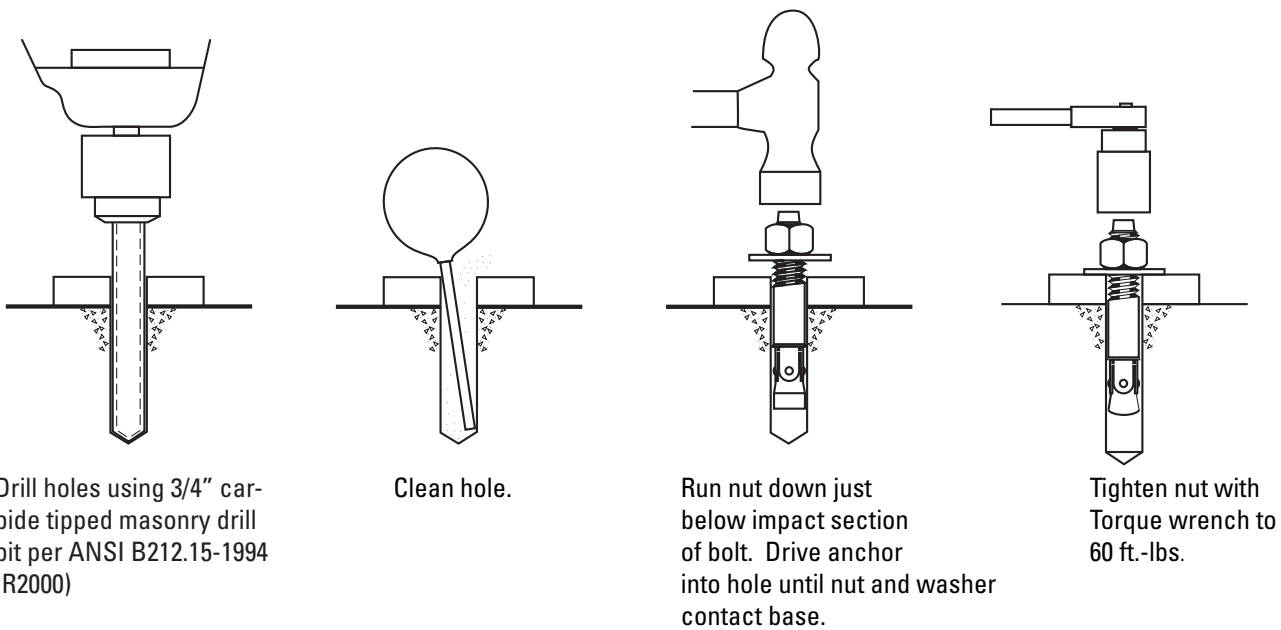
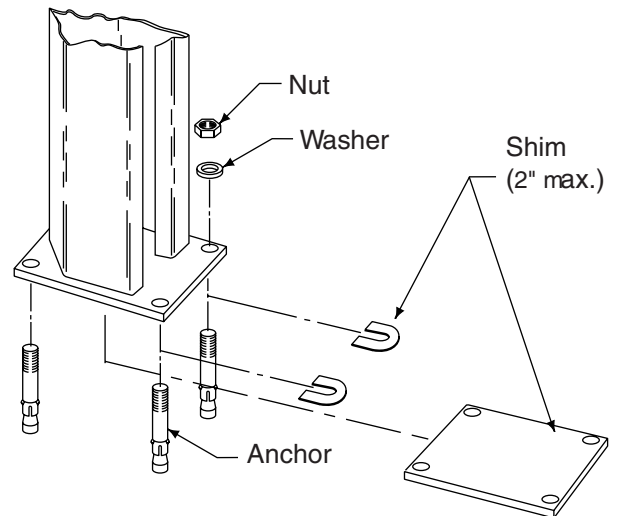

Fig. 11
Fig. 12
- C. Use shims provided to shim column base to plumb columns, first fore and aft then side to side. Use a 4' level to check plumb of columns. Recheck $\frac{5}{16}$ " gap between column and yoke with yoke spacer tool. Maximum shim thickness is 2", Fig. 12. If more shimming is required, consult factory for different shim package including longer anchor bolts. Drill four $\frac{5}{8}$ " diameter holes through concrete floor using base holes as guide, Fig. 11. Repeat for other columns.
- D. Insert base anchors, Fig. 11. Repeat for other columns. Tighten nuts. Recheck columns for plumb. Re-shim if necessary. Torque anchor bolts to 60 ft. lbs., Fig. 11. If anchor bolts do not hold when torqued to required amount, concrete must be replaced. Saw cut and remove 24" x 24" square area under each column base. Repour with reinforced # 3000 minimum concrete to depth of 6", keying new concrete under existing floor.